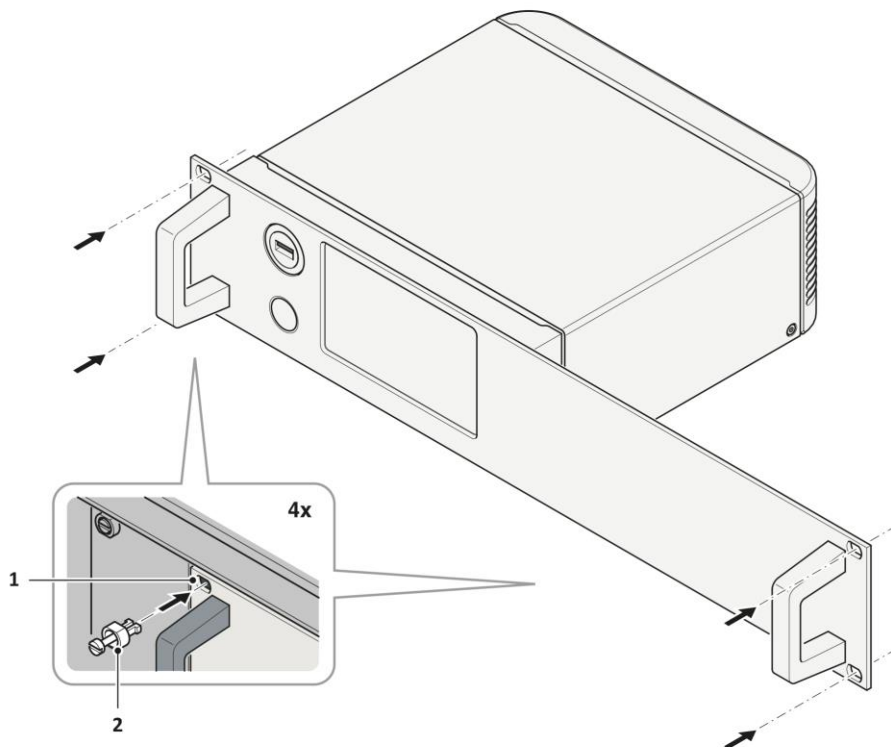

Figure 39 Mounting the rack device
1. Grab the device at its handles and attach it to the rack, matching its screw holes (Figure 39/1) to the threaded holes in the rack.
2. Screw in the device's fixing screws (Figure 39/2) at their designated positions (Figure 39/1).